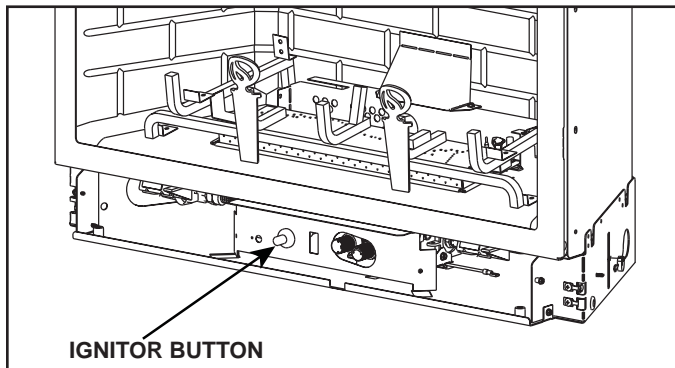

Figure 10.1 Location of Ignitor Button
- A red or black ignitor button (as shown in Figure 10.1) indicates this appliance is standing pilot ignition.